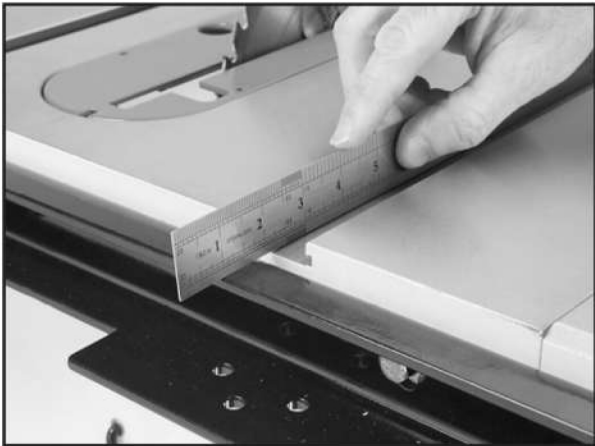

Fig.9: check the location of rear rail
A. install the rear rail , front rail, tube, (extension table) as breakdown, Before tightening the fasteners,check to make sure the top edge of rear rail is flush with the lowest edge of both T-bolts, so the miter gauge will slide smoothly when installed later. as Fig.9